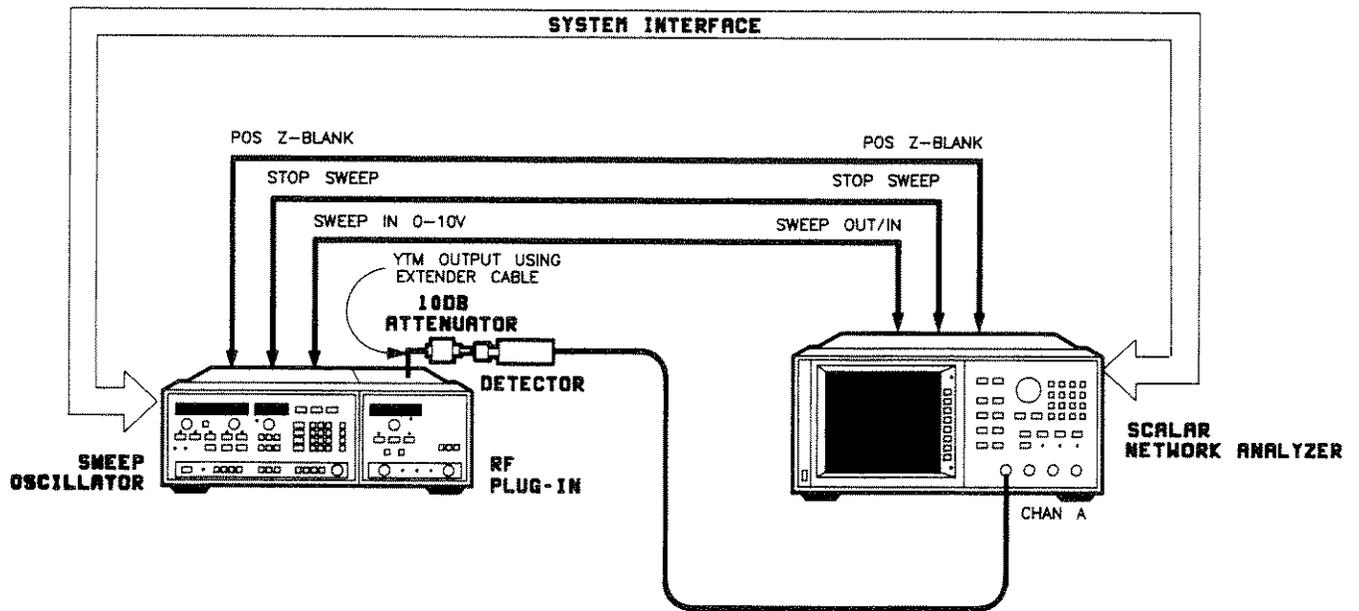

Figure 5-19. Slow Speed YTM to YO Tracking Test Setup
1. Connect the equipment as shown in figure 5-19 with the plug-in A6 sweep control board on the extender board. Press **[PRESET]** on the analyzer.